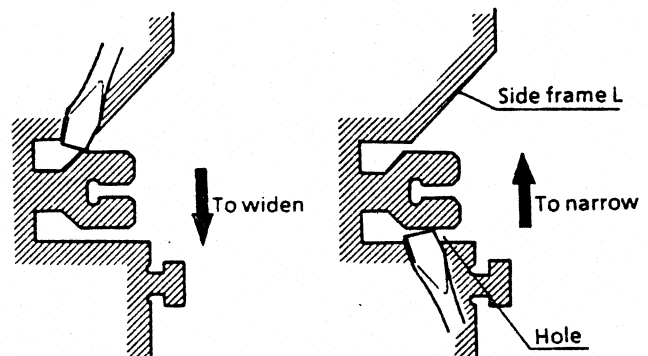

Fig. 4
* When a proper gap is not obtained, insert a regular screwdriver into the adjustment hole of the side frame L to make adjustment. (Refer to Fig. 4)